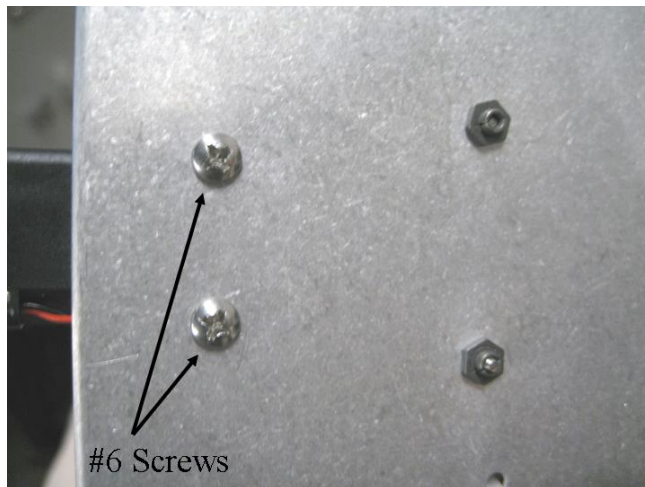

FIGURE H-9. Self-tapping screws attaching pump to metal box
9. Gently lift the pump assembly from foam, leaving the tubes attached. Turn it over and remove the two self-tapping #6 screws that attach the pump to the metal box, as shown in FIGURE H-9. If these screws become lost or damaged, replace them with pn #13535.
2. Reattach the pump to metal box with two self-tapping #6 screws on the back of the pump module electronics plate (FIGURE H-9).